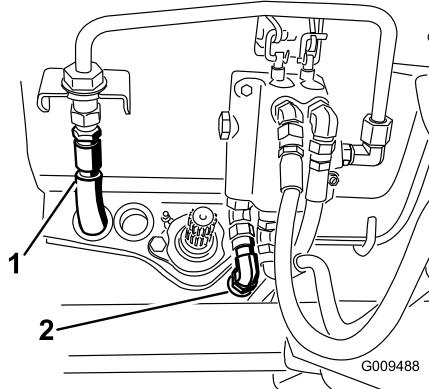

Figure 78
15. Disconnect the tank hose from the control valve hard line (Figure 78). Cap the hose and fitting. Pull the tank hose back toward the rear of the frame.
16. Disconnect the pressure hose from the control valve (Figure 78). Cap the hose and fitting. Pull the hose back toward the rear of the frame.